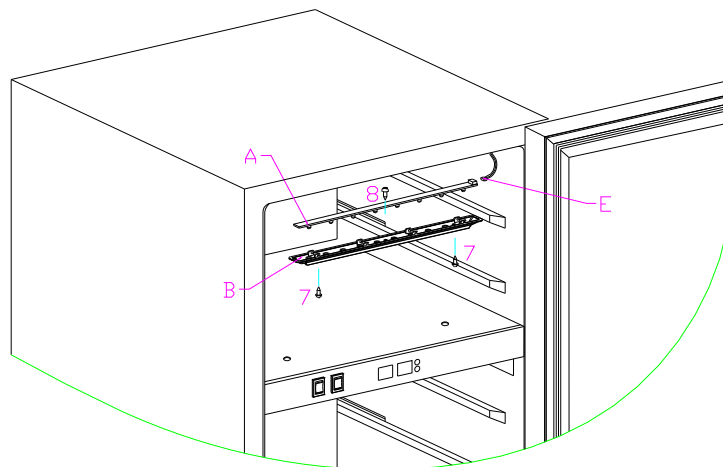

Fig. 13
1. How to replace the upper LED light (Fig.13)
2>, Remove 2 fixing screws(7) of the light cover(B),take apart the cover.(Fig.13)